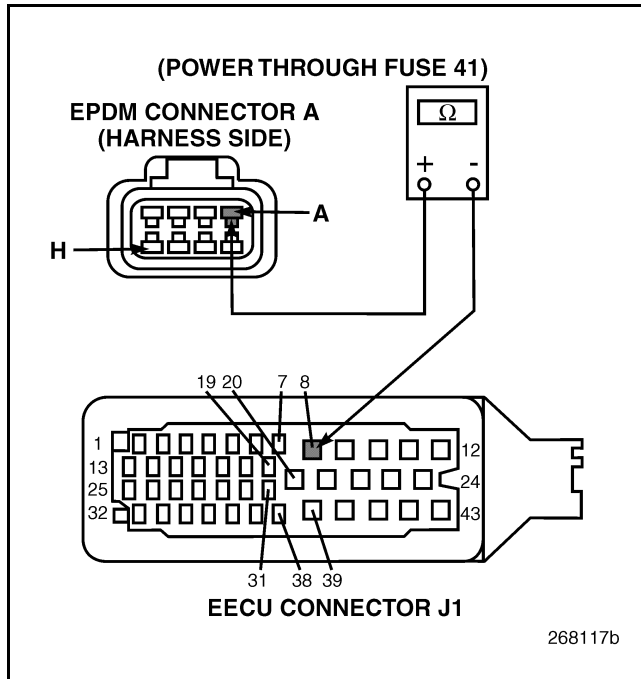
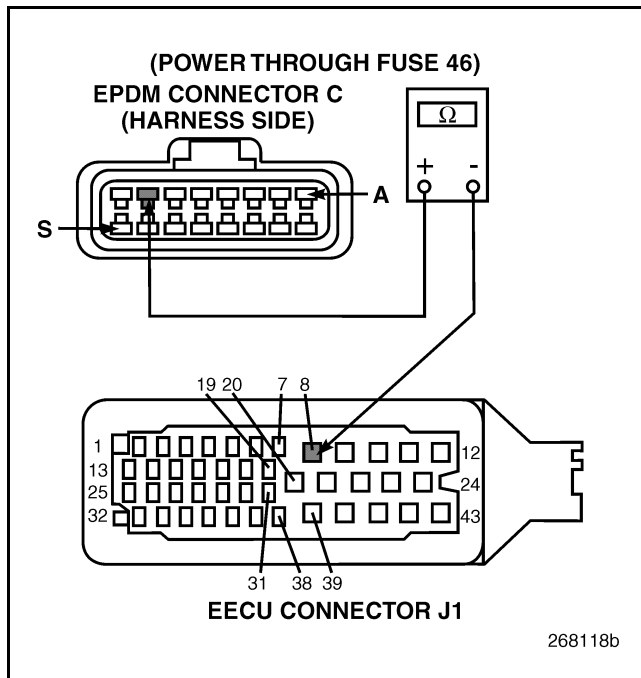

Figure 489
Figure 490
4. Measure the resistance of the circuit between the fuse in the EPDM and EECU connector J1 pin 8. If power is supplied through fuse 41, measure between EPDM connector A pin A and connector J1 pin 8 (see Figure 489). If power is supplied through fuse 46, measure between EPDM connector C pin G and connector J1 pin 8 (see Figure 490).